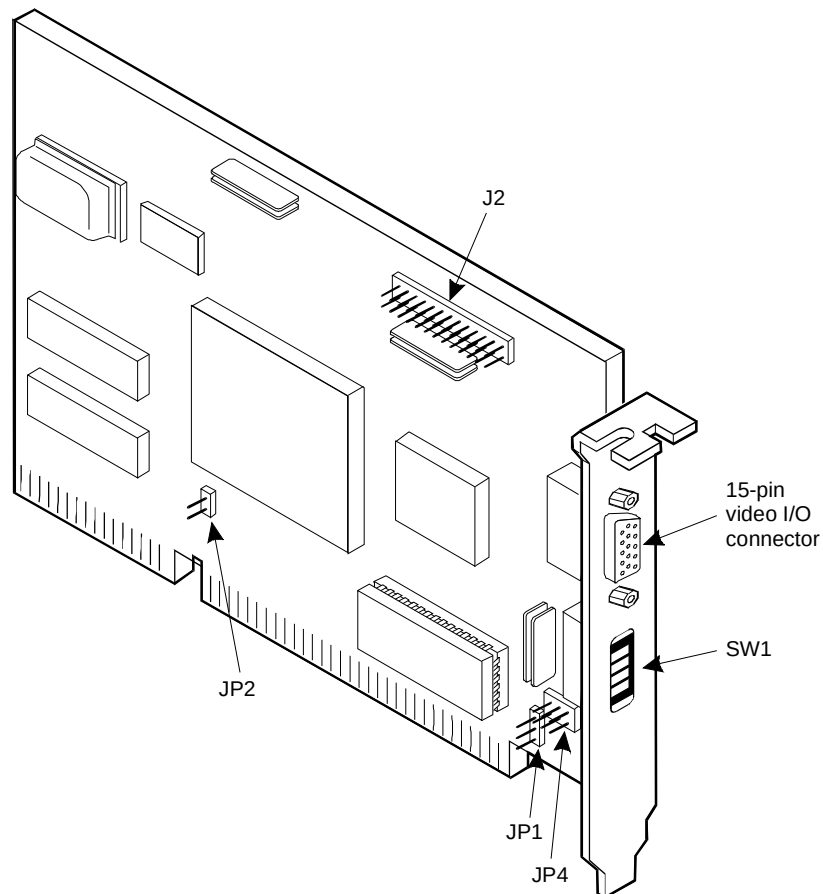

Figure 5-90. Video Controller Circuit Card — Model WDXLR833124
- WDXLR833124 (Figure 5-90)
Figure 5-90 shows the WDXLR833124 video controller circuit card.
Position the card in front of you with the gold fingers pointing down. See Figure 5-90 for proper orientation.
These switches control the monitor's mode and vertical and horizontal retrace/scan rate. See Figure 5-90 for the location of the switch on video controller card.